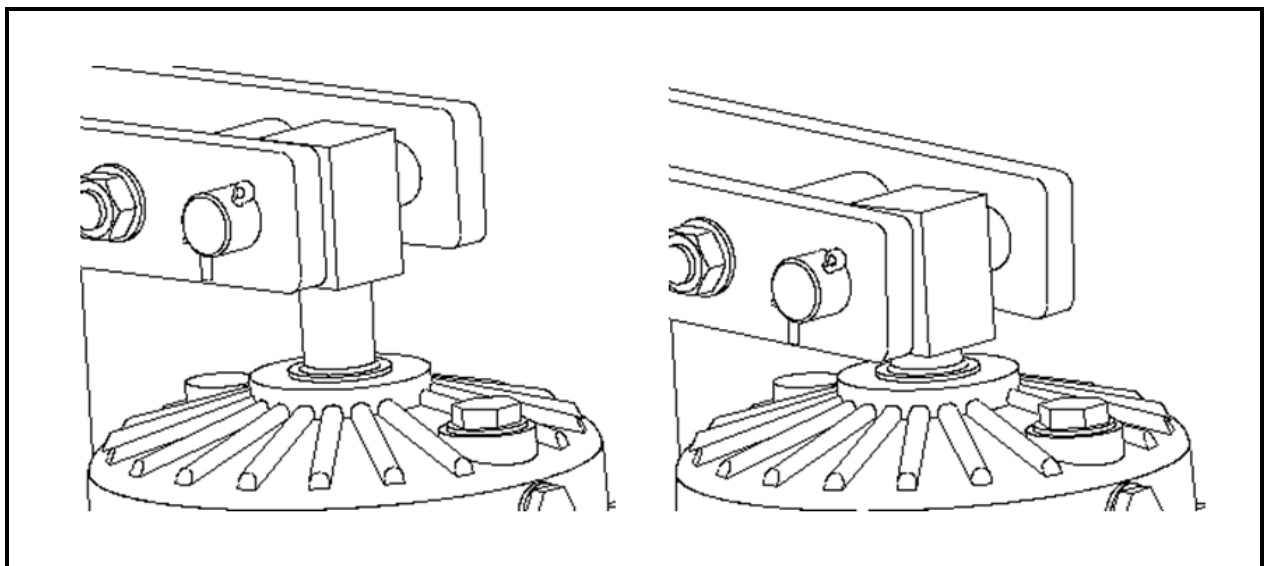

Fig. 8.4
If the thruster rod like Fig. 8.4 right side representation full inside the thruster there is the danger you will loose the hole clamping force. This state must be avoid.
- The spring pre-load can also be checked if you are measuring the travel of the thruster stroke item 1 on applying the brake. A travel of 1/3 of the max stroke is normal. If the distance travelled becomes greater, adjusting/readjusting may be necessary in order to achieve the maximum braking torque again.
- If the thruster rod like Fig. 8.4 right side representation full inside the thruster there is the danger you will lose the hole clamping force. This state must be avoided it is necessary to adjust before!
If the thruster rod like Fig. 8.4 right side representation full inside the thruster there is the danger you will loose the hole clamping force. This state must be avoid it is necessarily to adjust before!